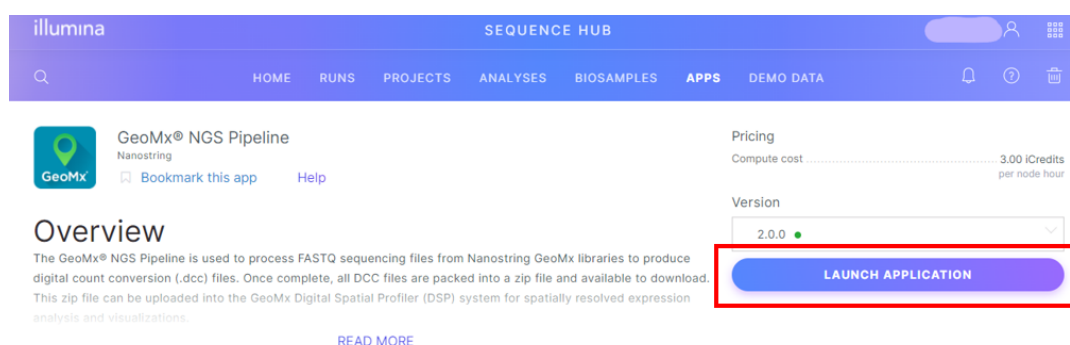

Figure 15: Launch application
3. Launch application (Figure 15).